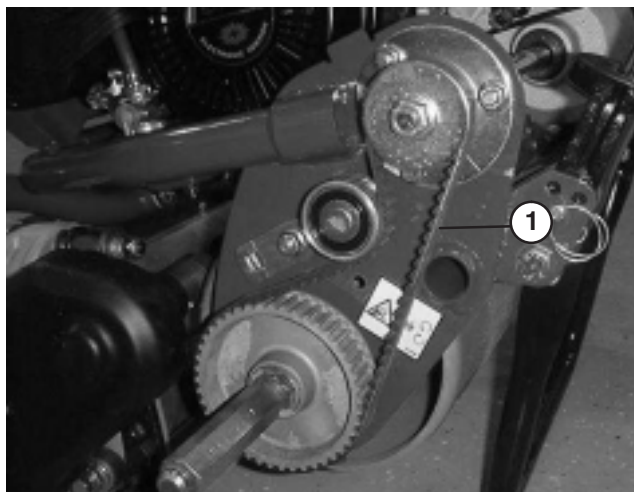

Figure 45
2. Check tension by depressing belt (Fig. 45) at mid span of pulleys with 4 ± 1 lb. of force. Belt should deflect 1/4 in. If deflection is incorrect, proceed to next step.